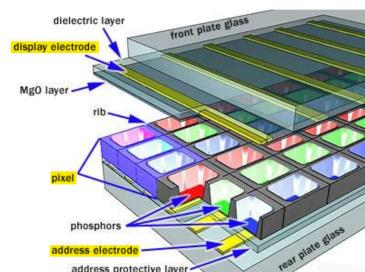

Figure 22: This is a plasma screen
**Example 2.3.3.** In a plasma screen, as illustrated in figure 22 it has a lot of boxes above and below which there are electrodes. In each sub-pixel, it contains low pressure gas that give rise to plasma. As you apply a voltage in both top and bottom electrode, the electron of the plasma collide with the phosphors, and light was emitted. Each box represents a sub-pixel. It can emit one of RGB. The problem with this design is that it we have to put gas in to *a lot of boxes*, each isolated and sealed, they cannot leak.